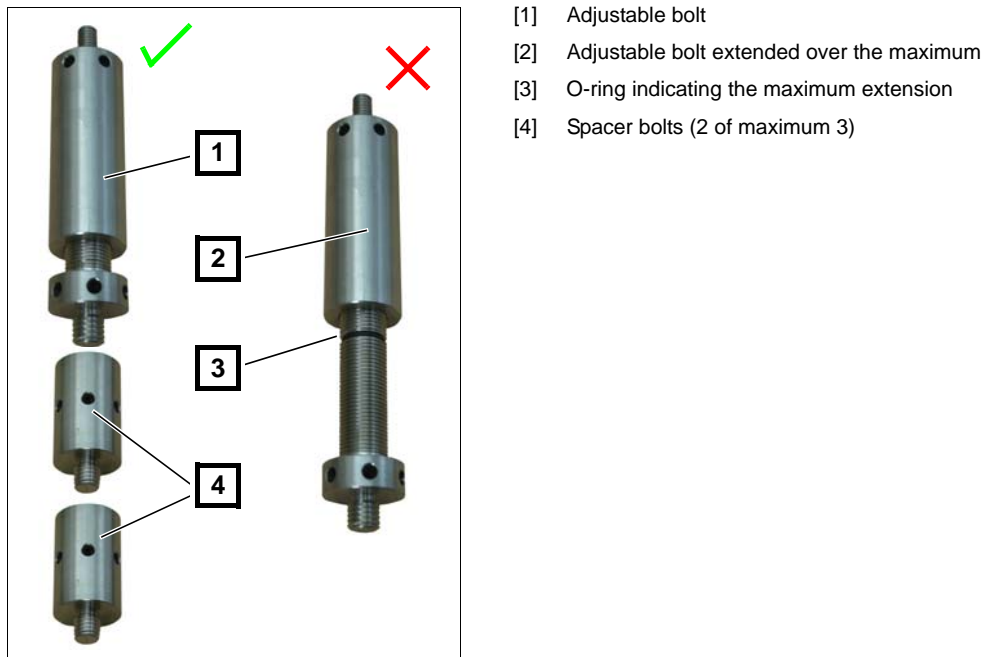

Figure 3.10 How to Use the Bolts of the Central Bearing
The maximum extension of the adjustable bolts is indicated with an O-ring in the tread (see [Figure 3.10 \[3\]](#)). If extended further, upper and lower part of the adjustable bolt may fall apart and the mounting hardware is unsafe.
- ▶ If the adjustable bolt is too short then insert more spacer bolts (see [Figure 3.10 \[4\]](#)).